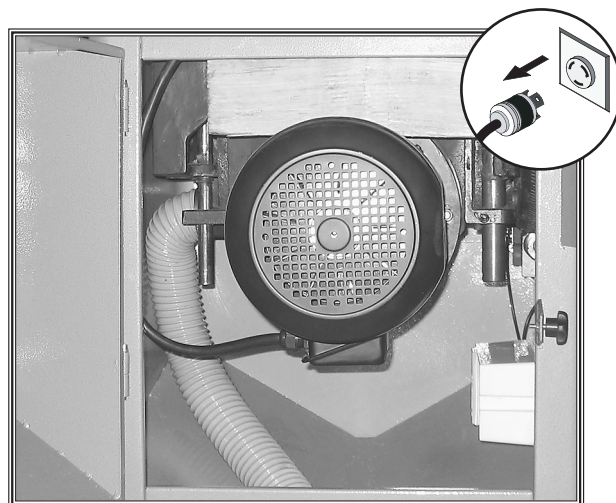

Figure 63. Using wood block to tension belt.
7. Raise the arbor assembly to tension the belt, ensuring that the wood block is between the motor and cabinet as shown in **Figure 63**.